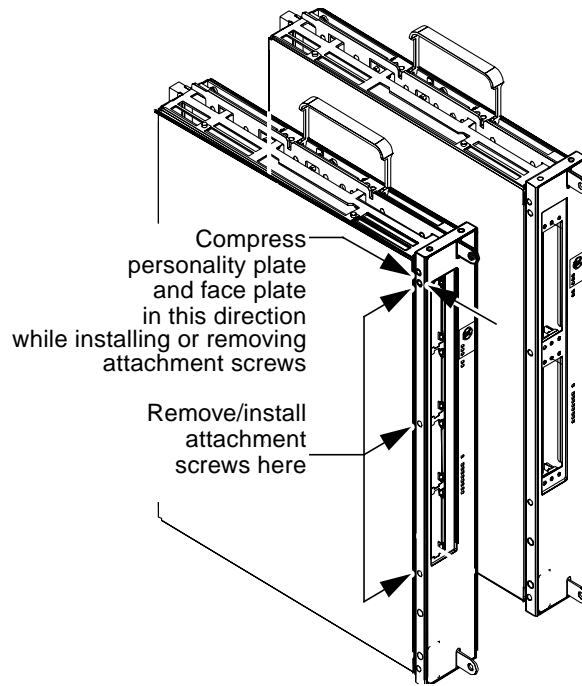

FIGURE 8 Personality Plate Installation
3. Compress the personality plate against the EMI gasket to align the screw hole. Sustain this force to relieve the stress on the screws threads and install the three attachment screws as noted in FIGURE 8 on page 9.